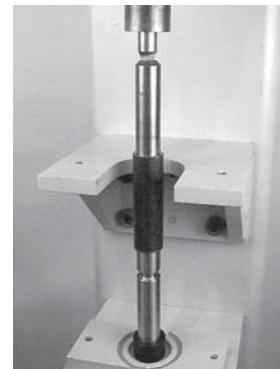

Figure 69
4. Using an arbor press or similar device, press bearing onto pulley shaft (**Figure 69**).